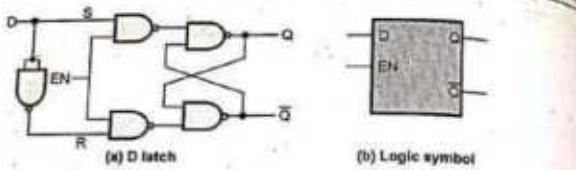

Fig. 5.3.6
- Fig. 5.3.6 shows the D latch.
- As shown in the Fig. 5.3.6, D input goes directly to the S input, and its complement is applied to the R input, through gate 5. Therefore, only two input conditions exists, either  $S = 0$  and  $R = 1$  or  $S = 1$  and  $R = 0$ .